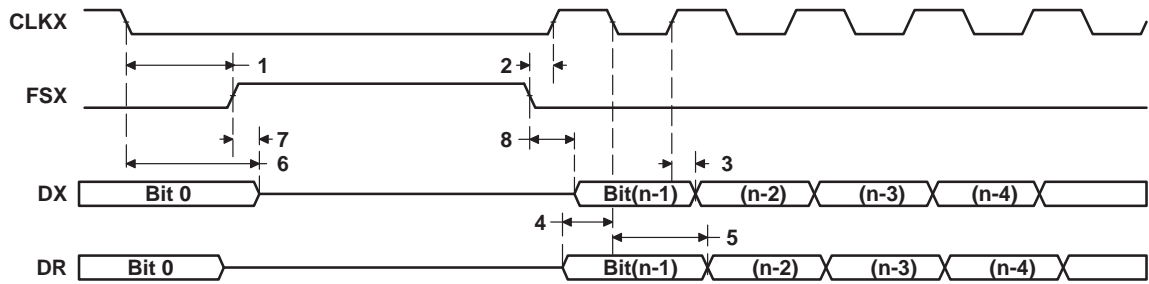

Figure 32. McBSP Timing as SPI Master or Slave: CLKSTP = 10b, CLKXP = 0
**timing requirements for McBSP as SPI master or slave: CLKSTP = 10b, CLKXP = 0†‡ (see Figure 32)**
**switching characteristics over recommended operating conditions for McBSP as SPI master or slave: CLKSTP = 10b, CLKXP = 0†‡ (see Figure 32)**